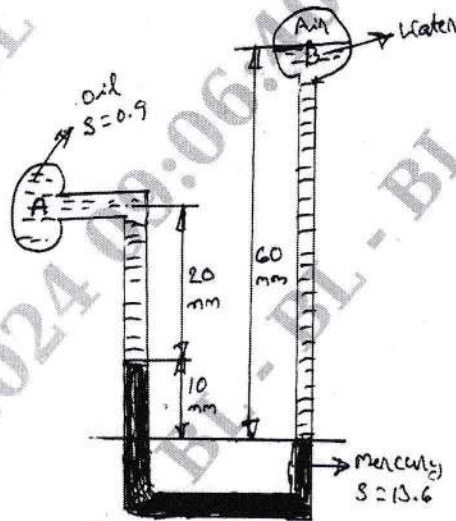

Fig. Q2(c)
- c. A differential manometer is connected at two points A and B as shown in Fig. Q2(c). At B, the air pressure is 9.81N/cm² (absolute). Find the absolute pressure at A. (08 Marks)